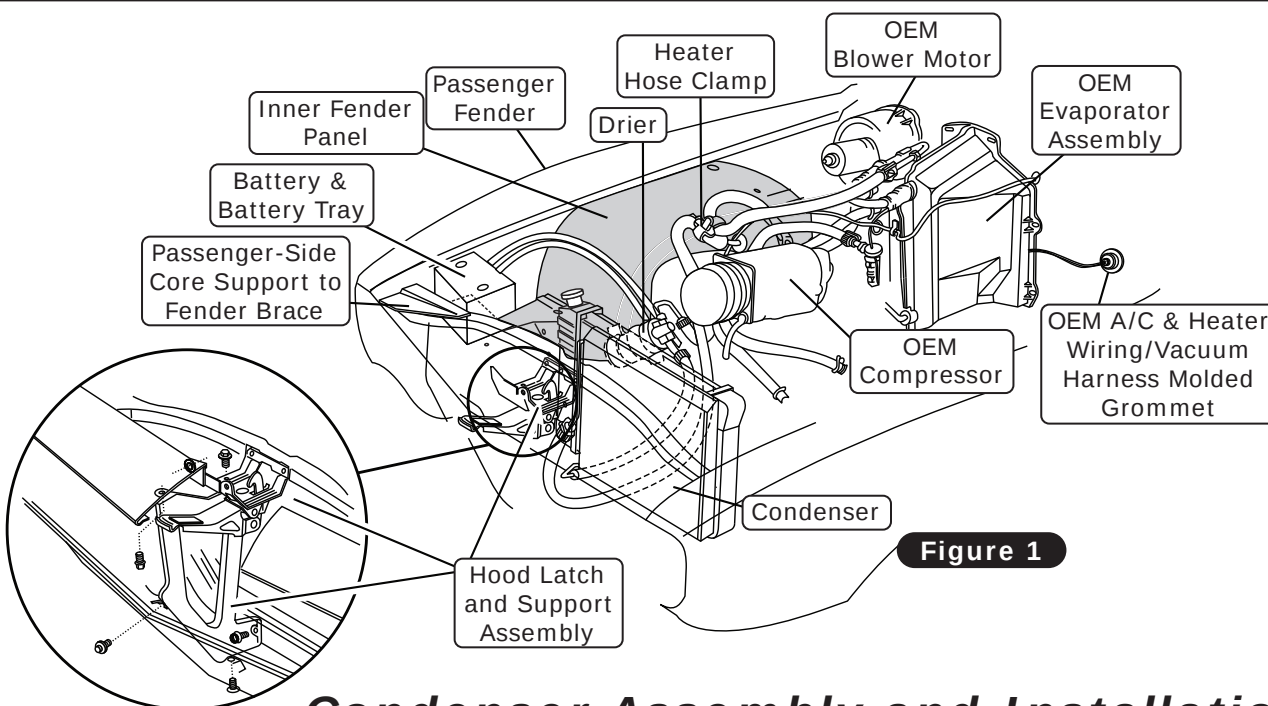

Figure 1
1. Remove the battery and the battery tray (retain) (See Figure 1, below).
4. Remove the condenser and lines (discard) (See Figure 1, below).
5. Remove the OEM compressor and bracket (discard) (See Figure 1, below).
7. Remove the evaporator and blower assembly (discard). **NOTE: To remove the evaporator and blower assembly (under hood) and the air distribution system (under dash), the factory manual indicates doing the following: Remove the right lower rocker molding. Remove the lower fender attaching bolts. Remove the skirt to the fender and skirt to the reinforcement screws. Pull out on the lower portion of the fender, moving the skirt away from the fender flange and firewall. Block the skirt with a 2 x 4 block of wood.** To avoid damage to the paint and sheet metal, and for ease of removal and replacement of components, Vintage Air suggests that the right fender be removed and the inner panel be lowered (See Figure 1, below).
8. Remove the OEM heater hoses, A/C hoses, hardlines and drier (discard) (See Figure 1, below).
9. Remove the OEM heater wiring/vacuum harness molded grommet (See Figure 1, below).